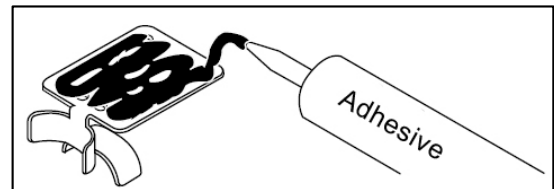

Figure 2.
3. Apply 0.2 oz. of adhesive/sealant to the back of BT-50 roof clip. See Figure 2.